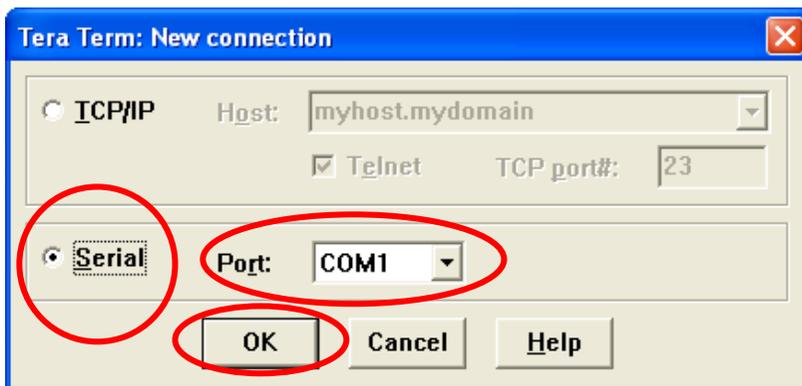

Figure 109
9. When the following window appears (Figure 109), select Serial and COM1, then press 'OK'..